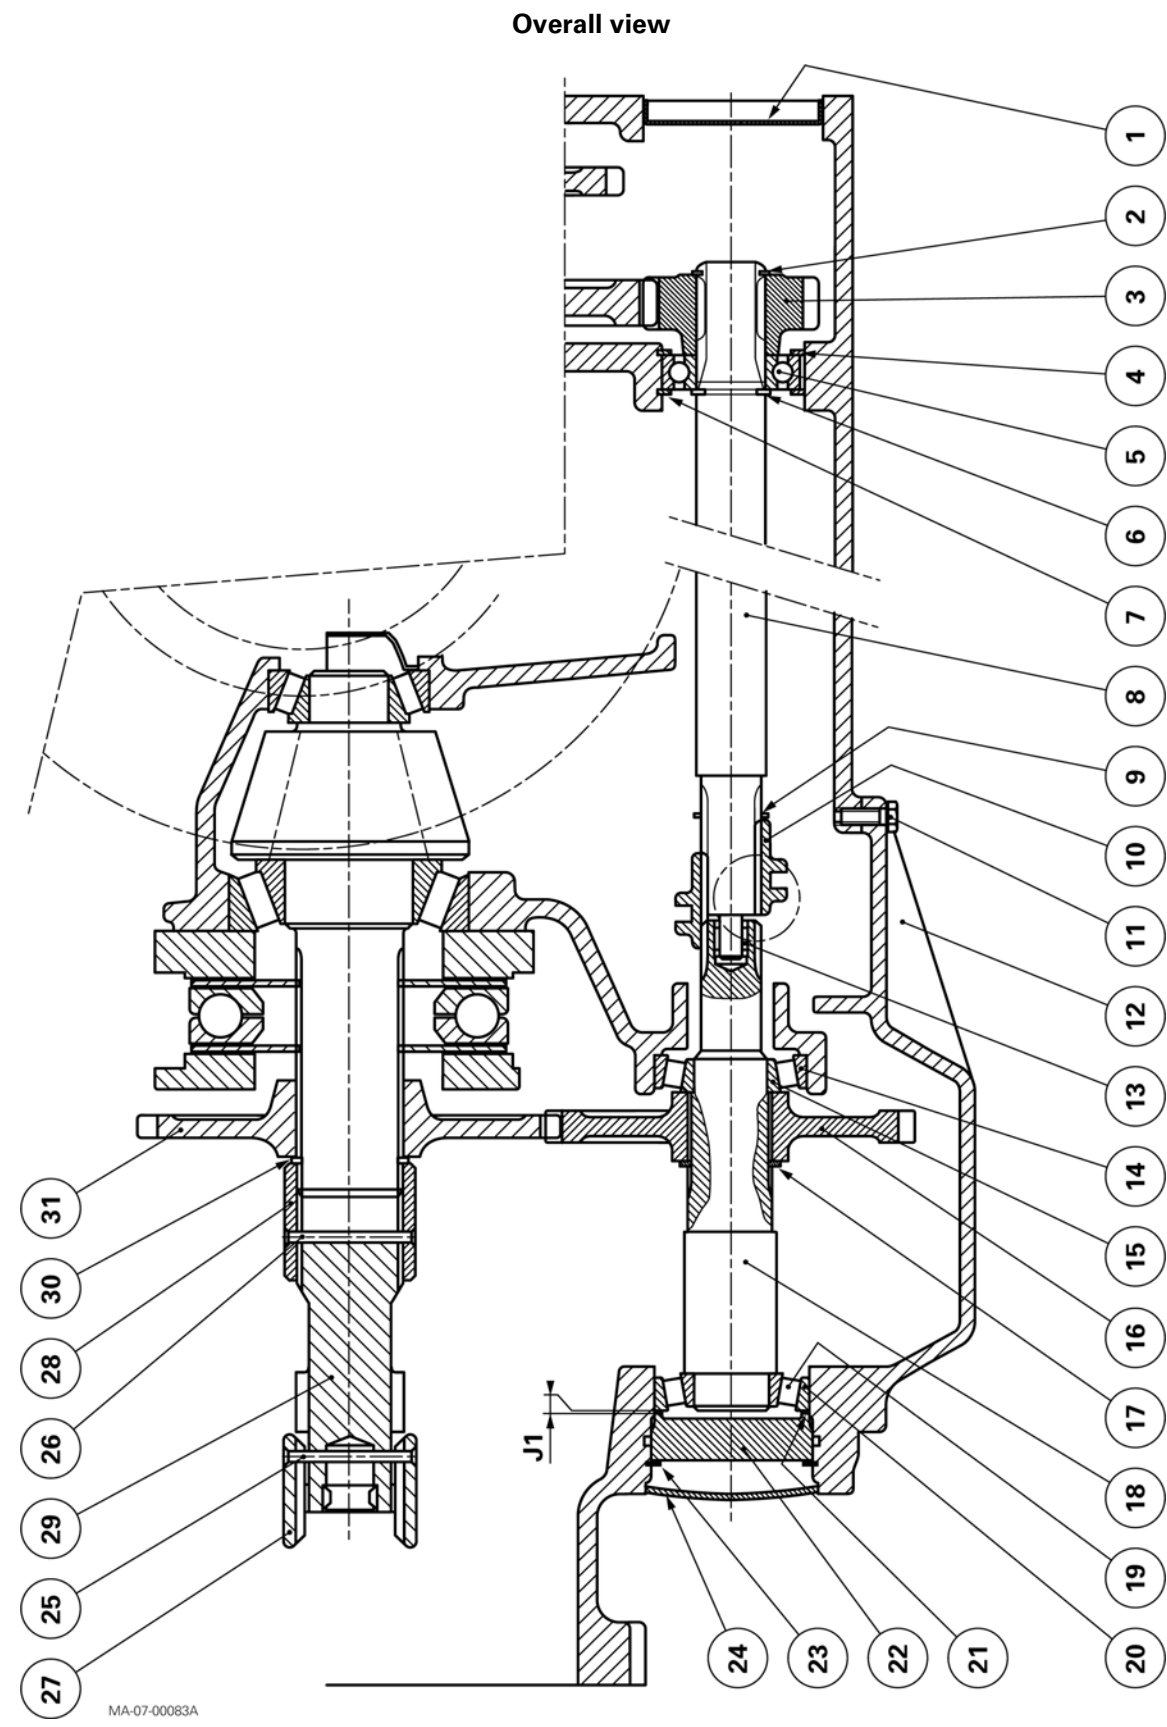

Fig. 2
5. Disconnect the control cable (1) and remove the link (7) (Fig. 2).